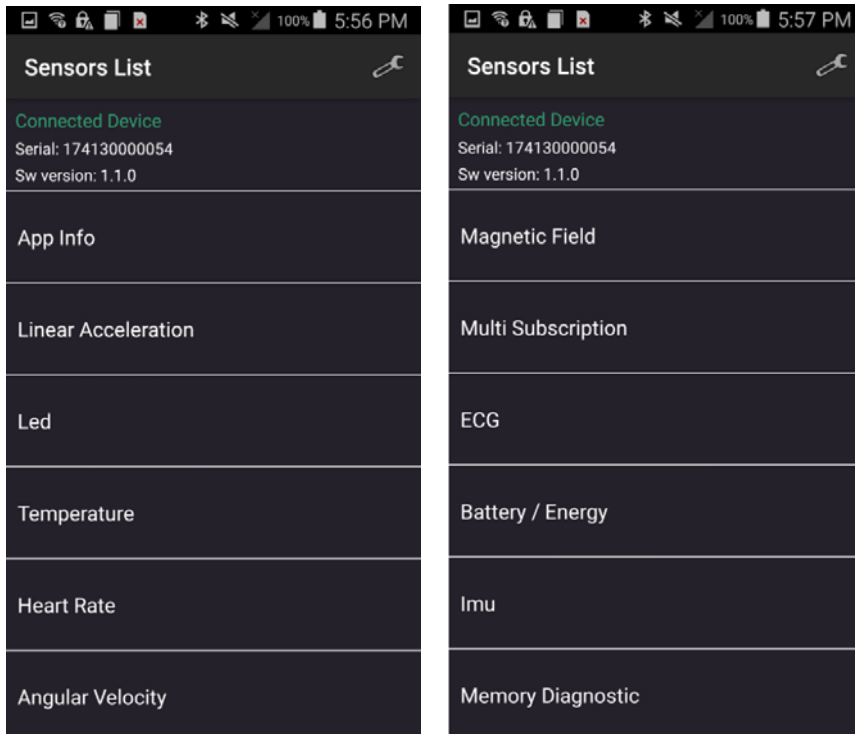

Figure 1. Complete list of sensor measurements.
3. Select the DFU icon in the main screen (see Figure 1). The following window appears: